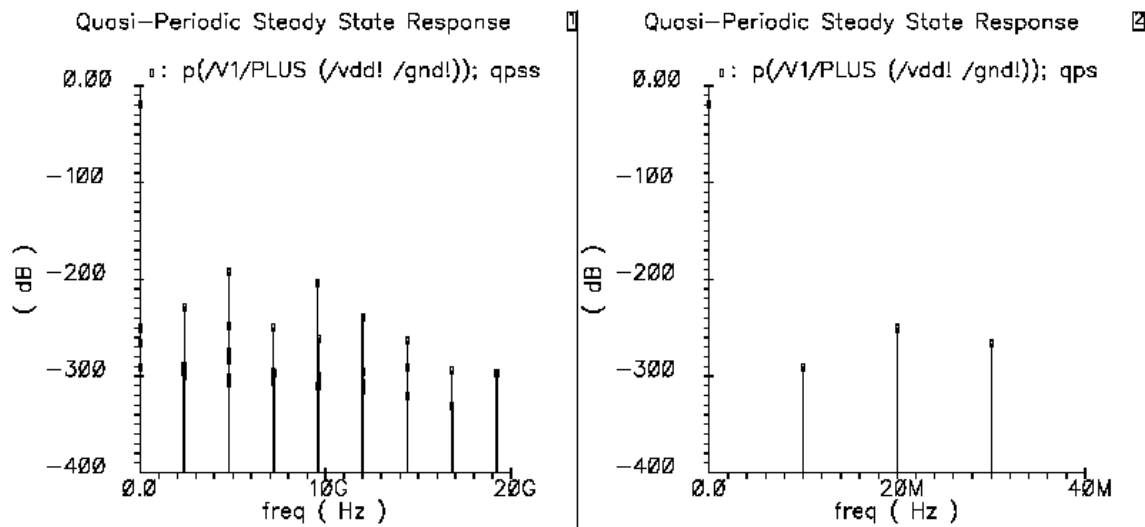

Fig 7: Large Signal Voltage Conversion Gain
- You will see the plot as shown in Fig7